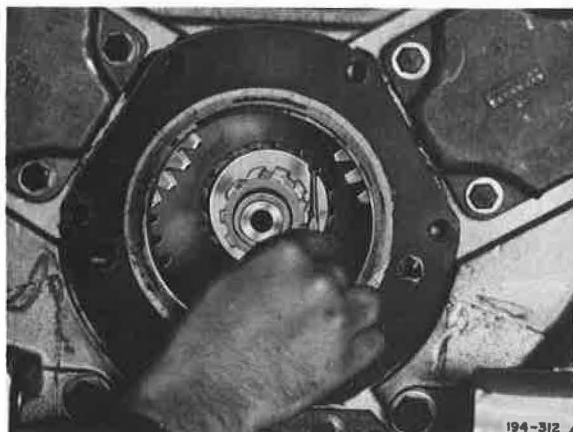

Figure 5-29. Disengaging Fourth Speed Gear Thrust Washer for Removal
10. Using a small tool, rotate fourth speed gear thrust washer one spline tooth and slide washer off of mainshaft. See Figures 5-29 and 5-30.